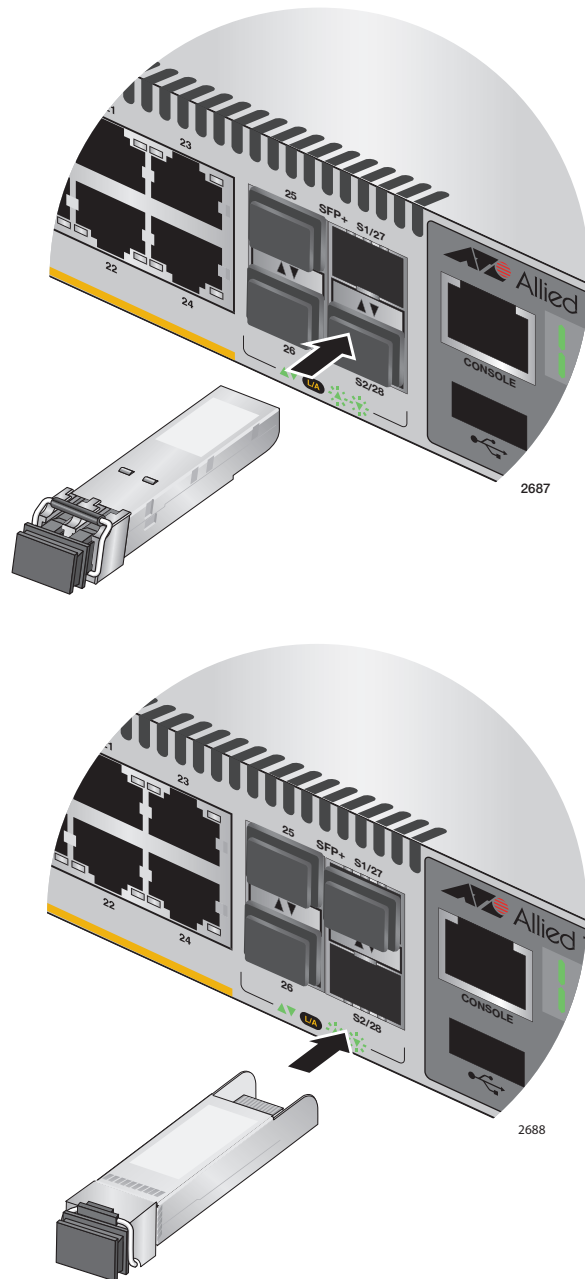

Figure 62. Installing the AT-StackOP/0.3 or AT-StackOP/9.0 Transceiver
3. Slide the transceiver into the slot until it clicks into place, as shown in Figure 62 on page 102.